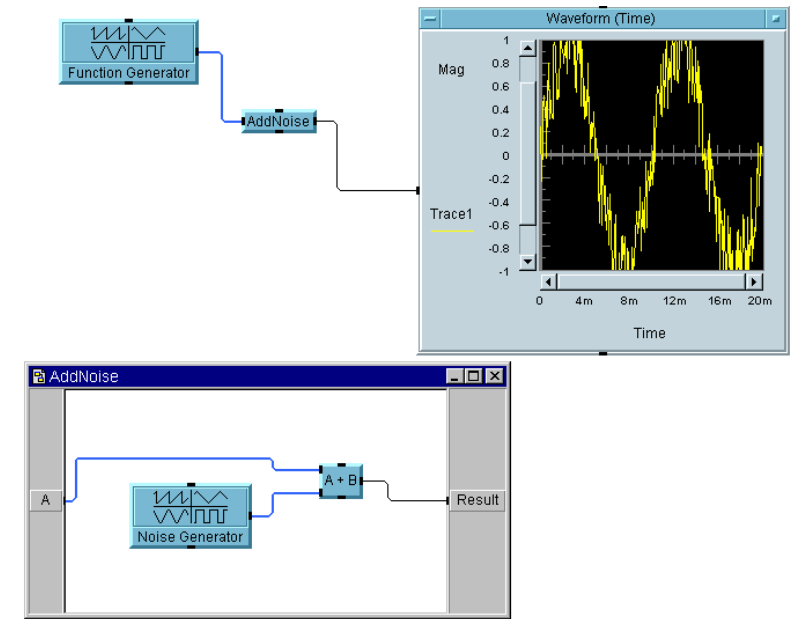

Figure 2-4. UserObject Renamed AddNoise
7. To help you keep track of the UserObject, change the title from UserObject to AddNoise. Double-click the title bar and enter the new title in the properties dialog box. Figure 2-4 shows how this makes the program easier to follow.